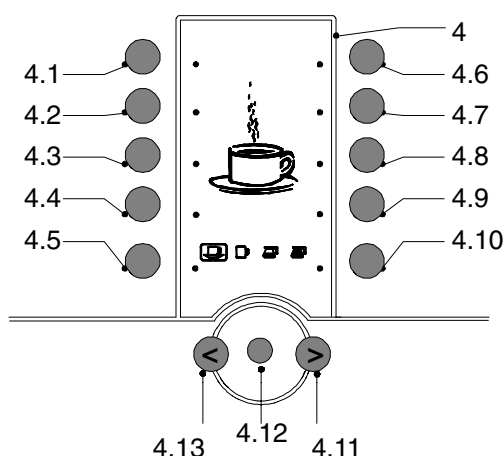
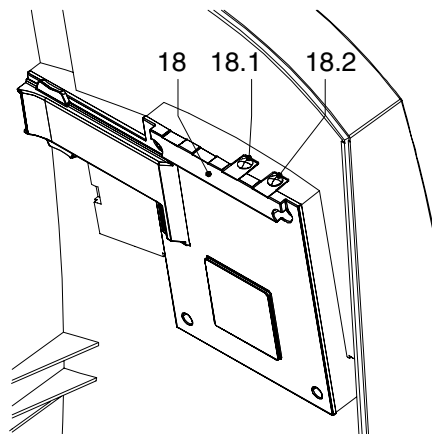

Fig. 2 Operating panel front
Fig. 3 Operating panel inside
The machine is provided with two operating panels, one at the front (fig.2) and one at the inside (fig.3). During normal daily use of the machine by the consumer, only the operating panel at the front is used. For programming and specific activities the operating panel at the inside is important as well.
- The display (4.) shows during normal use while programming, rinsing or descaling the machine and in the case of failures various symbols, values and messages that will be explained in this manual. Fig.2 displays the basic position (operational position).